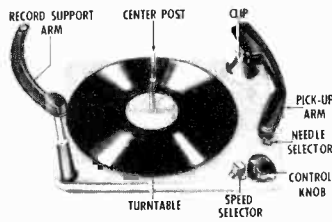

FIG. 1
**PLACING RECORDS ON THE CHANGER:** Raise the Record Support Arm straight up until it clears the Center Post. Then, turn this arm to the position shown in Fig. 1 so that it will not interfere with record loading.
**UNLOADING RECORDS:** If some records remain above the off-set shoulder on the Center Post, it will be necessary to hold them steady before disturbing the Record Support Arm. Then raise the Support Arm straight up until it clears the Center Post and turn it to the position shown in Fig. 1. Records can now be removed by lifting them off the Turntable.